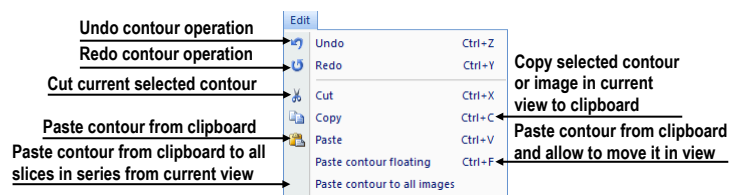

Figure 32 – Edit menu
- **Edit** – clipboard operations with image in current view and selected ROI contour, see Figure 32.